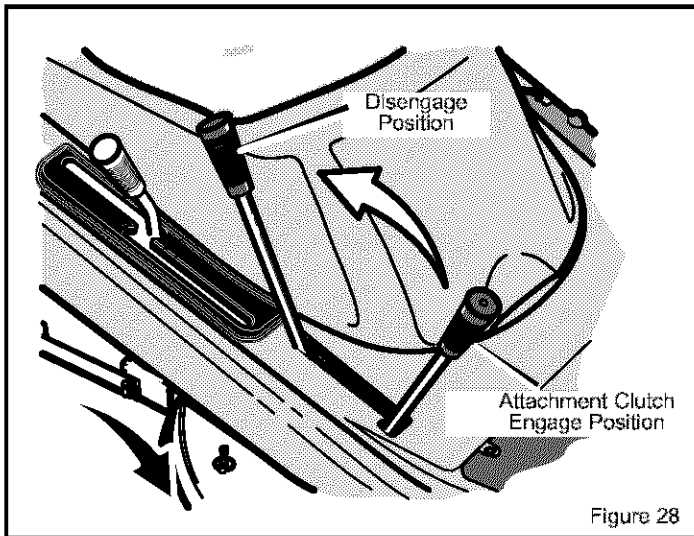

Figure 28
2. Move the **attachment clutch** to the **DISENGAGE** position (Figure 28).